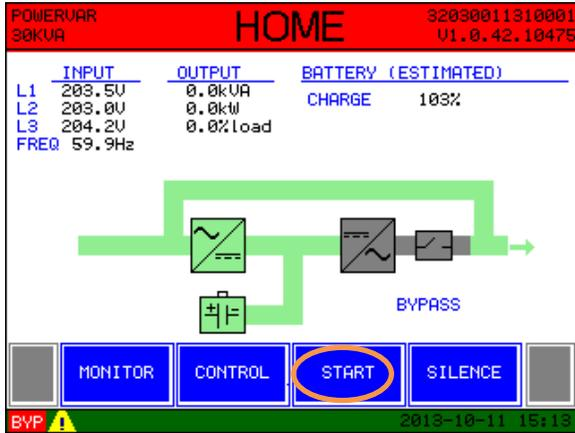

Fig. 4-12
Step 3: The UPS may now be started by pressing the “start” button at the bottom of this screen (Fig.4-12).